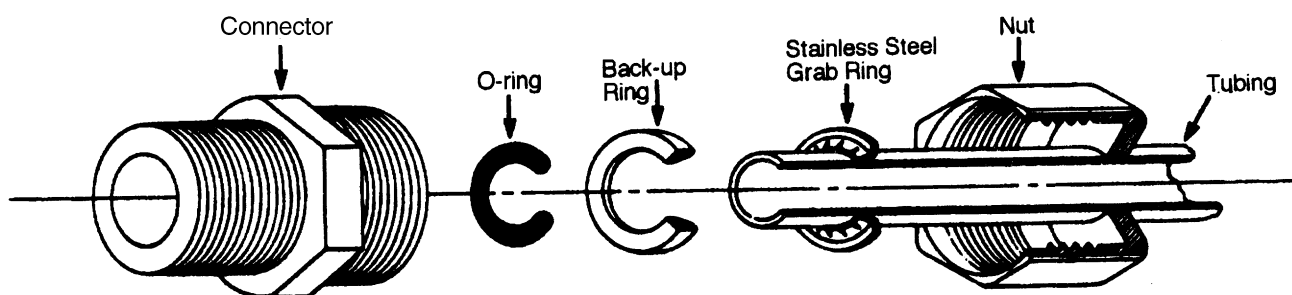

Figure 4-1. Tubing Adapter
3. Place the grab ring and backup ring in the hex nut in the order and orientation shown in Figure 4-1. Thread the nut into the adapter. **DO NOT** use the o-ring at this time.